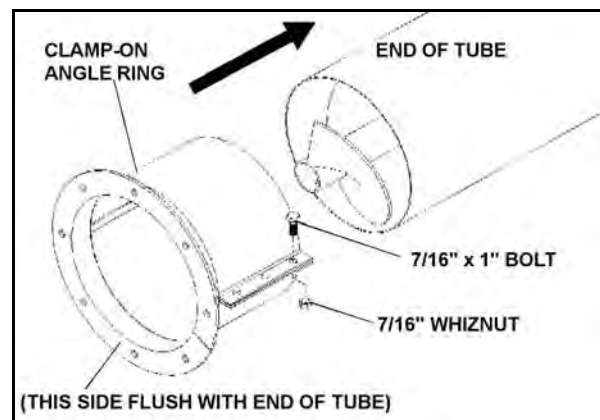

Figure 3.3
1. Slide clamp-on angle ring onto the end of the galvanized tube (Figure 3.3).